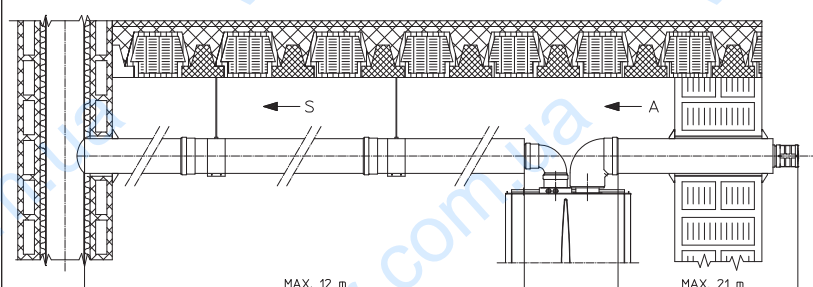

Fig. 1-31
- Temperature loss in insulated flue ducting. To prevent problems of fume condensate in the exhaust pipe $\varnothing 80$, due to fume cooling through the wall, *the length of the pipe must be limited to 12 m*. The figure (Fig. 1-31) illustrates a typical insulation application in which the intake pipe is short and the exhaust pipe is very long (over 5 m). The entire intake pipe is insulated to prevent moist air in the place where the boiler is installed, in contact with the pipe cooled by air entering from the outside. The entire exhaust pipe, except the elbow leaving the splitter is insulated to reduce heat loss from the pipe, thus preventing the formation of flue gas condensate.